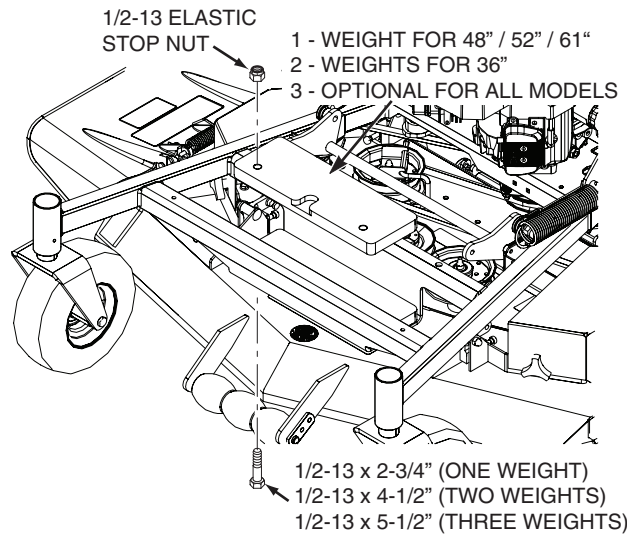

Figure 6-11. Front Weight Adjustment
Additional weight can be added to the front of the machine if needed. See Figure 6-11.
3. Add the desired weight to the machine and secure using the recommended hardware. See Figure 6-11.